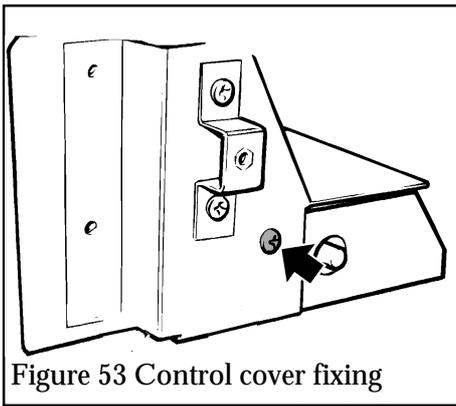

Figure 53 Control cover fixing
15.9.5 Detach the control unit cover by removing one screw (see figure 53).